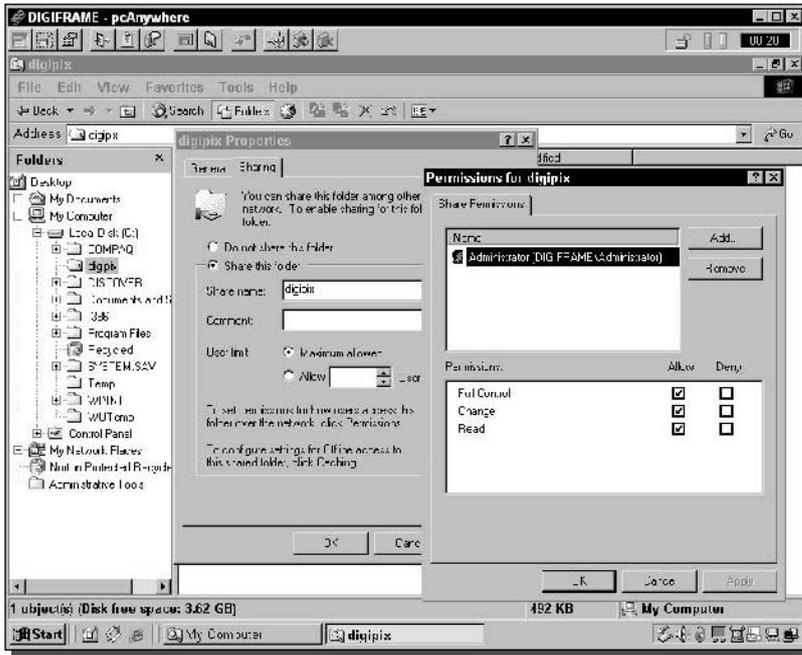

FIGURE 15-6: Sharing the digpix folder to the administrator account.
3. Enable sharing and give proper permissions for the users that will connect. In this case, only the Administrator account is configured for access to the folder (see Figure 15-6).